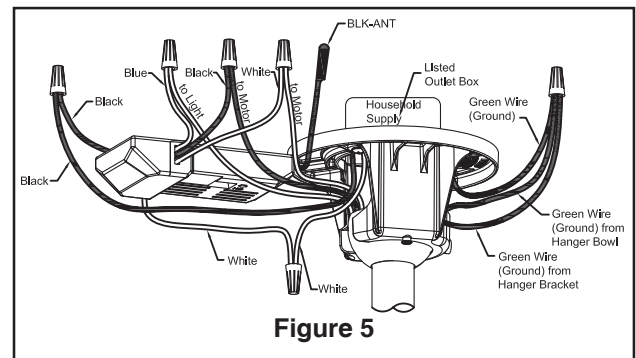

Figure 5
5. Route wires through motor coupling cover, canopy screw cover and canopy (Figure 5).
4. Connect green wires from hanger bracket and hanger ball to bare (ground) wire using wire connector supplied. Connect black wire from receiver unit marked "AC IN L" to black supply wire using wire connector supplied. Connect white wire from receiver unit marked "AC IN N" to white supply wire using wire connector supplied. Connect white wire from receiver unit marked "TO MOTOR N" to white wire from fan using wire connector supplied with receiver. Connect black wire from receiver unit marked "TO MOTOR L" to black wire from fan using wire connector supplied. Lastly, connect blue wire from receiver to the blue fan light wire using wire connector supplied. Position all connected wires and receiver antenna to allow installation of ceiling canopy (Figure 5).
5. After splicing and making the wire connections, the wires should be spread apart and turned upward with the grounded conductor and the equipment-grounding conductor on one side of the outlet box and the ungrounded conductor on the other side of the outlet box. (Figure 5)
5. Assemble the socket plate assembly to the motor assembly using the two key slots. Replace the previously removed screw and securely tighten all three screws (Figure 5).
- 5. If airflow is desired in the opposite direction, turn the fan off and wait for the blades to stop turning. Then slide the reverse switch on top of motor assembly to the opposite position and turn fan on again (Figure 5).